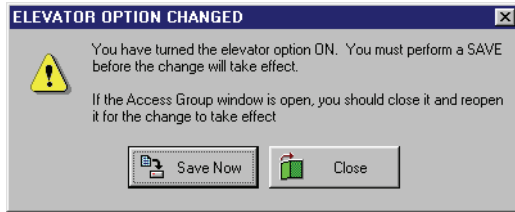
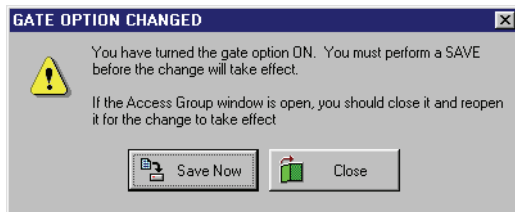

Figure 2-16: Elevator Option Changed Warning - ON
Figure 2-17: Gate Option Changed Warning - ON
- To enable elevator, gate, or time and attendance terminal control, click in the box beside Elevator ON, Gate ON, or Time and Attendance Terminal ON. A check mark appears in the check box and one of the following windows appear, depending on which box was checked (see Figure 2-16, Figure 2-17, and Figure 2-18).